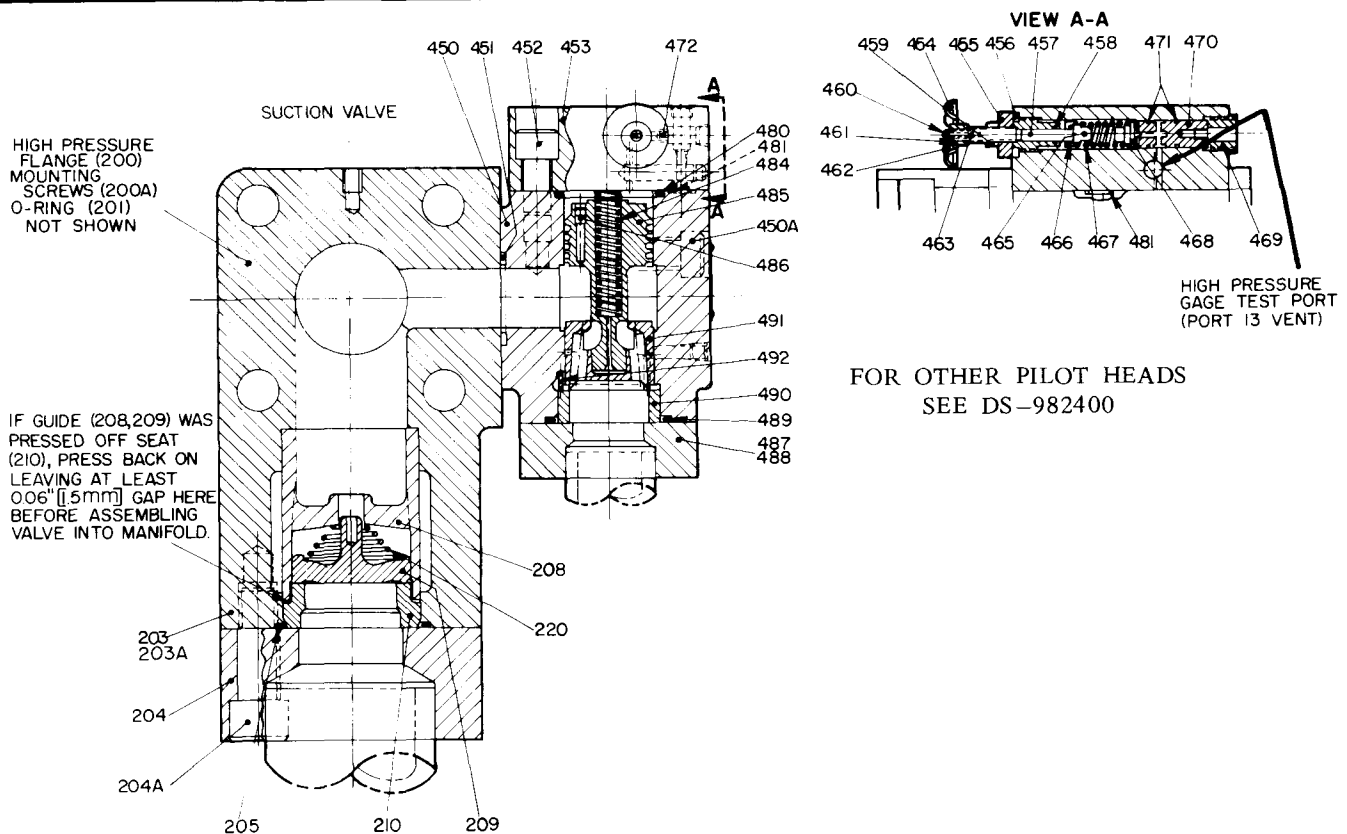

Figure 15. Optional Suction/Check Valve w/High Pressure Relief Valve. (508644)
See Figure 15. If seat (491) needs to be replaced, press new seat into body using spacer (490) and flange (487), then draw down on screws (488). Insert plunger (485) and spring (484) into body, then install O-ring (480) and operator head (453). Secure operator head to body with four socket head cap screws (452) and tighten securely. Install O-ring (493) into groove of relief valve body, then secure to pump or suction check valve body using four socket head cap screws (450A) and tighten.
See Figure 15. Insert check valve assembly (208, 220, 209, 210) into body, against shoulder. Reinstall O-ring (205) and flange (204), securing with four socket head cap screws (204A).